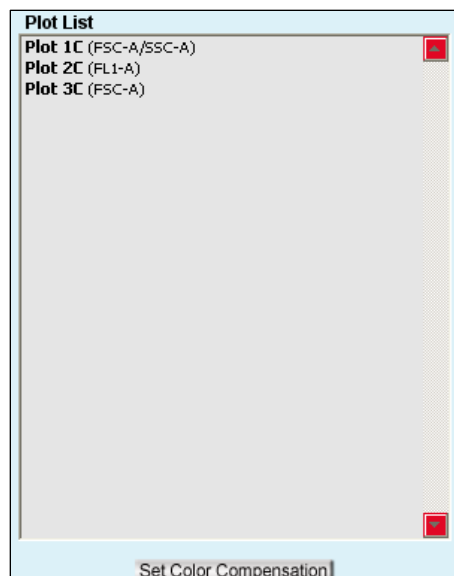

Figure 4-3. Plot List Containing Copied Plots
- Click on the *OK* button to close the dialog box. BD Accuri C6 Software adds the selected plots to the Plot List in the *Analyze* tab (Figure 4-3).